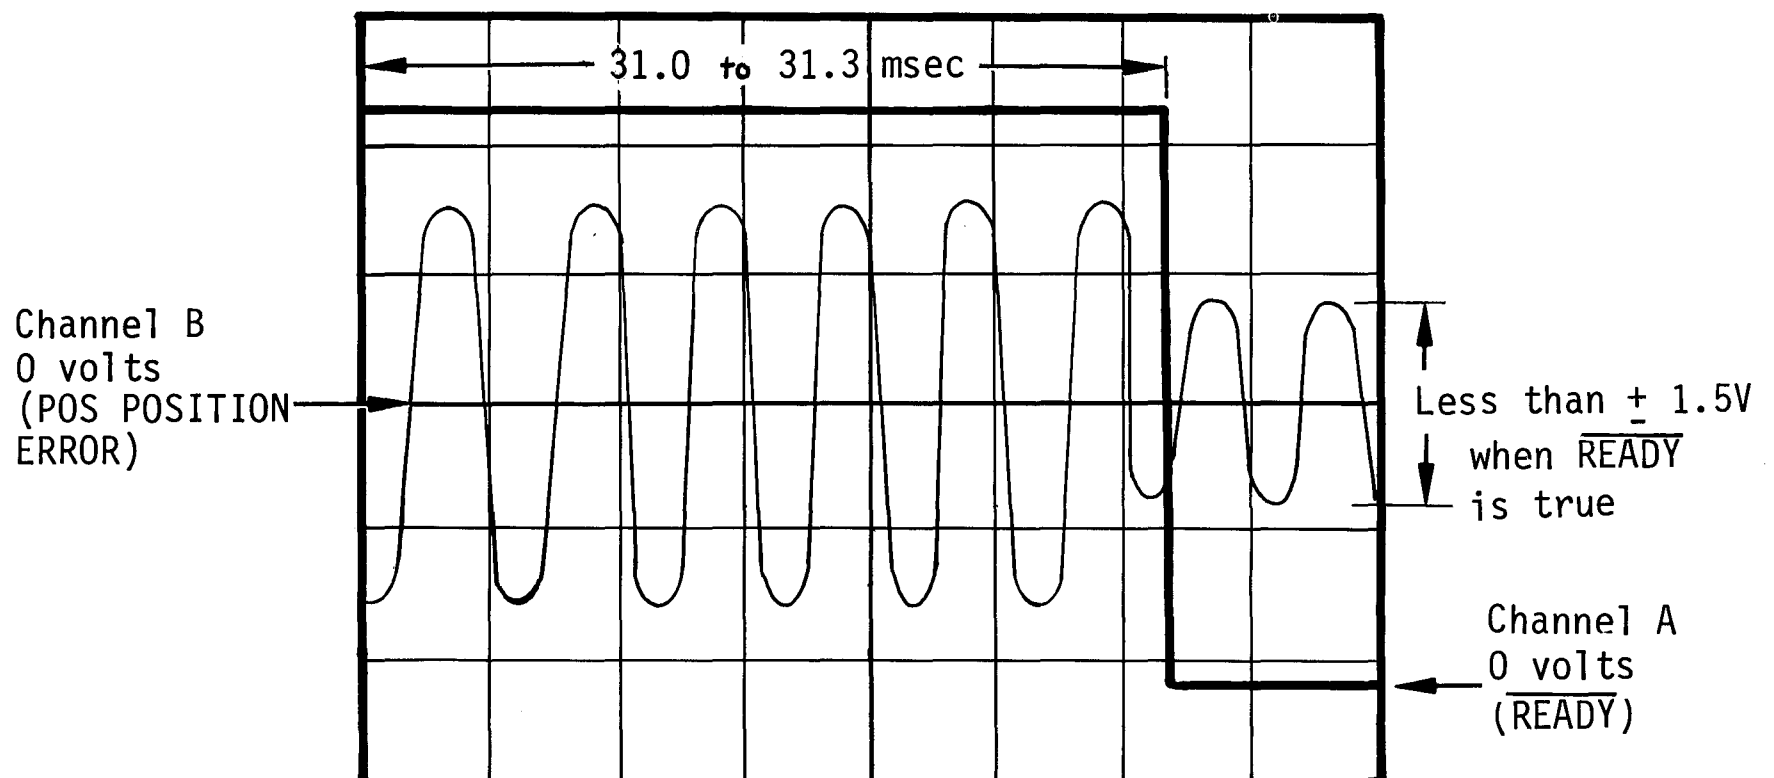

Figure 2-14. Tach Gain Adjustment Waveform
9. Observe Oscilloscope Channel A (READY), if necessary adjust potentiometer R54 (located on VSER PCB) such that READY is false (high) for 31.0 to 31.3 milliseconds (see Figure 2-14).
10. Observe Oscilloscope Channels A and B and verify that POS POSITION ERROR VOLTAGE (Channel B) is less than 3 volts peak-to-peak when READY is true (low) (see Figure 2-14).